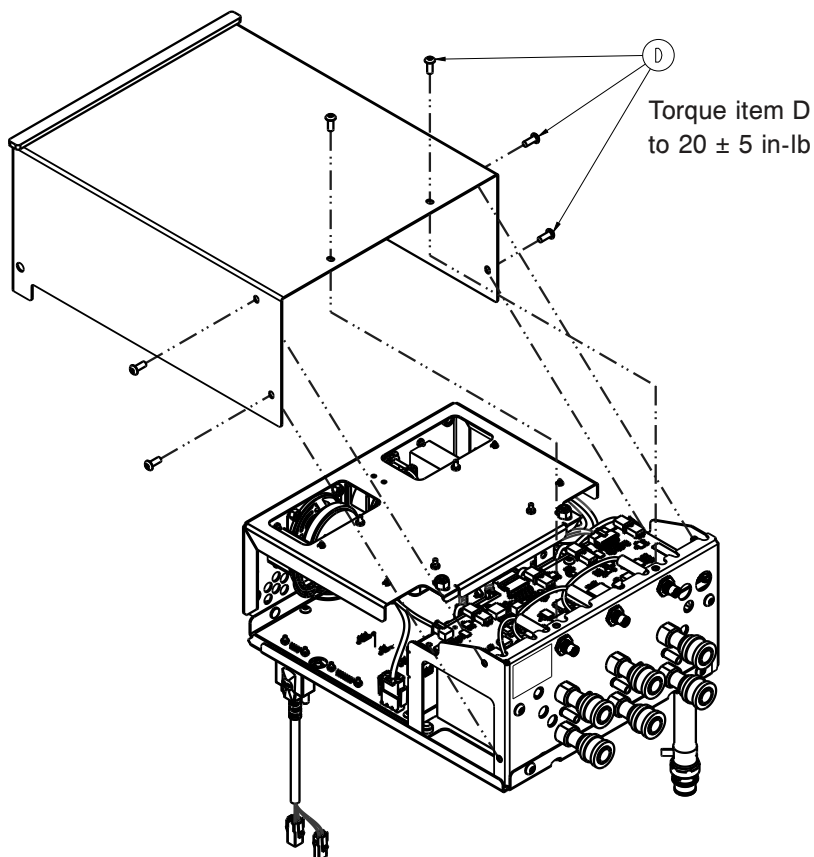

Figure 35: Control box cover
5. Using a T25 torx, remove the 6 screws (D) that secure the control box cover (Figure 35 on page 49).